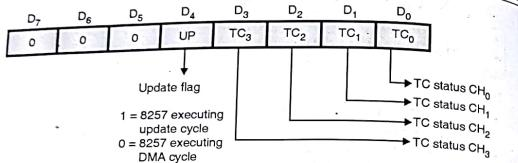

Fig. 17.13.3 : Status register
- It provides the status of DMA channels. The format of status register is as shown in Fig. 17.13.3